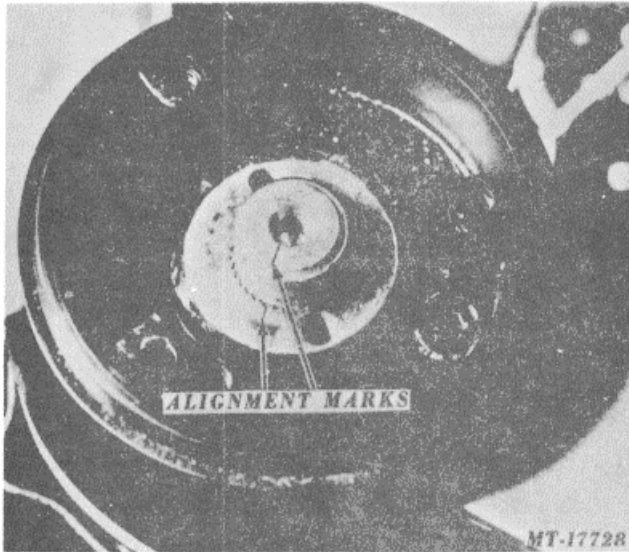

Fig. 14 Steering Wheel Alignment
1. The steering wheel has open serrations at the top that align with blind or closed serration on steering shaft. The location of blind serration is marked with either a center punch mark or chisel mark on the end of the steering shaft as shown in Fig. 14.